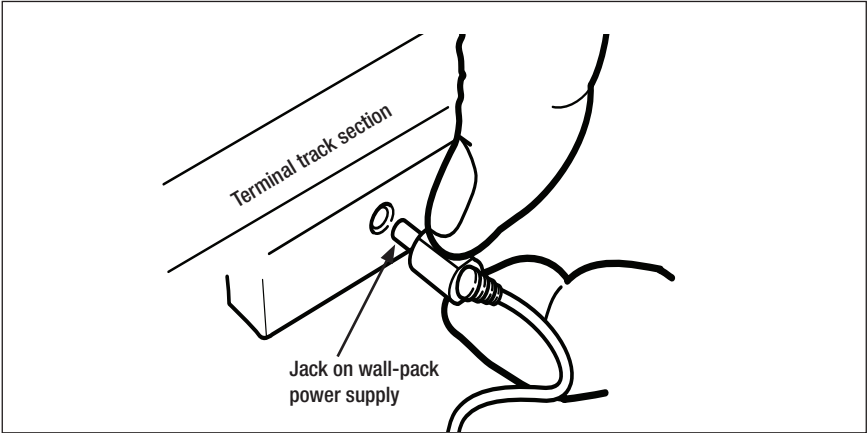

Figure 4. Wall-pack power supply connection
**Y**our trains are powered by a DC wall-pack power supply. To power the track, simply plug the wall-pack into an outlet and plug the jack into the terminal section as shown in Figure 4.